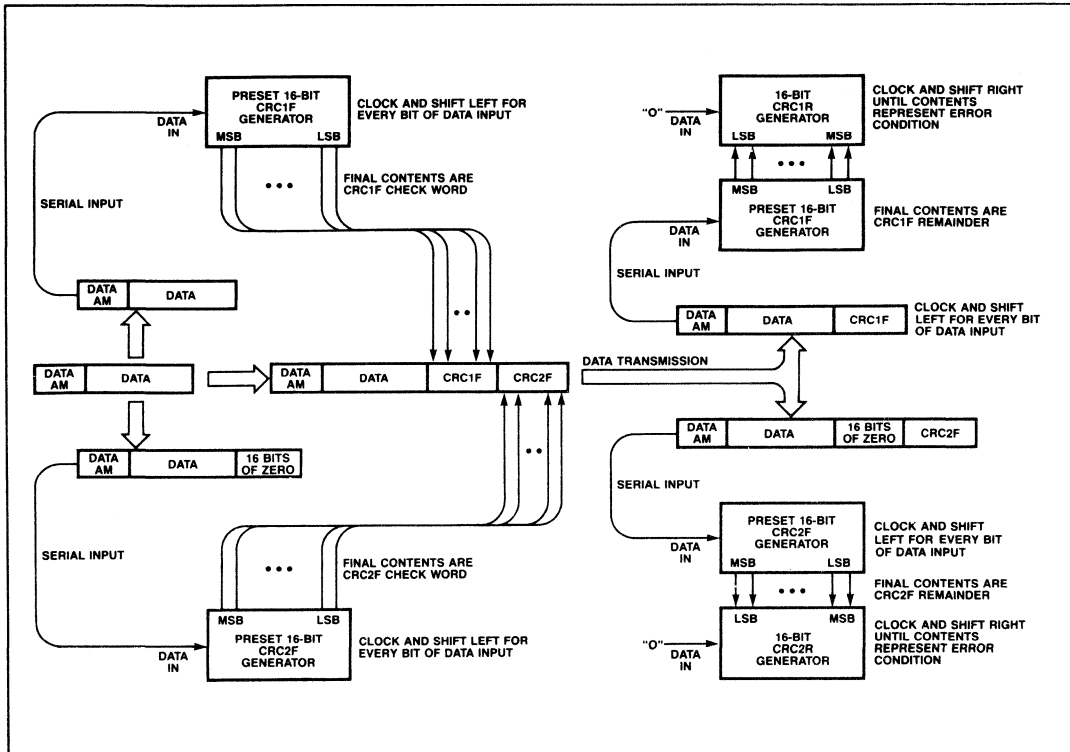
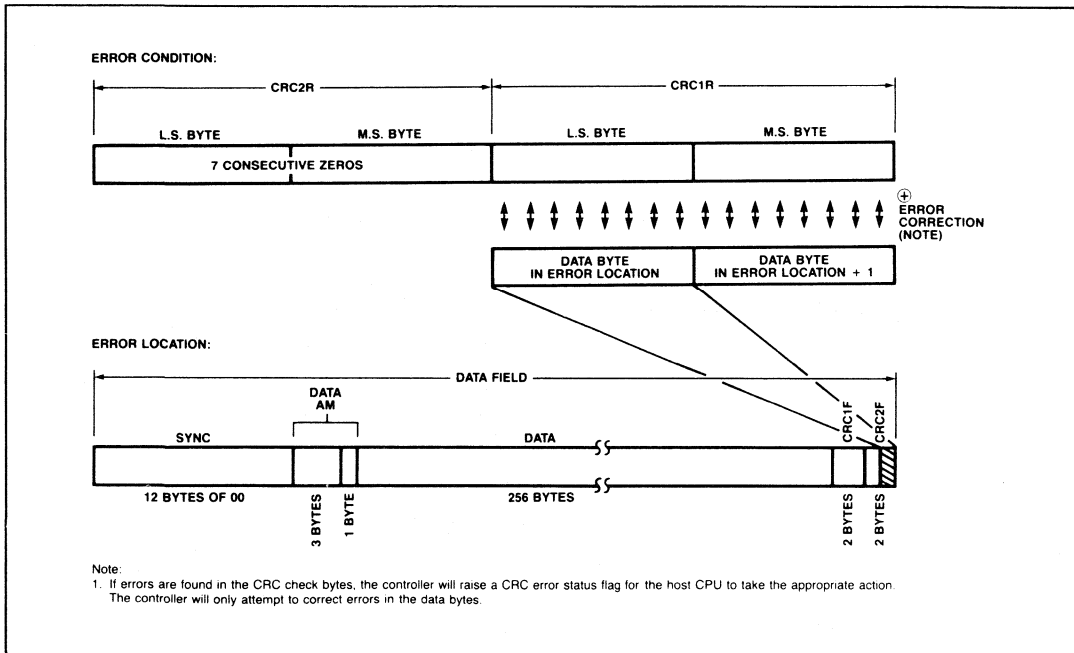

Figure 11. Data Flow
Figure 12. Reverse Generation Cycle #1 (CRC1R not reverse generated)
**Error Correction Scheme.** Once an error has been detected, the nonzero remainders of the two forward generators are used to determine the error pattern and location by loading them into the corresponding reverse generators in reverse order. The reverse generators are then generated with zero data input and checked for error conditions, as shown in Figure 11. The method of implementing the error correction scheme is illustrated in Figures 12 through 18. The process of locating an error starts with checking for errors in
The error pattern is found in the CRC1R generator. Error correction is done by XORing the data bytes in the error location and error location plus one with the CRC1R least significant and most significant byte respectively, as illustrated in Figure 11.